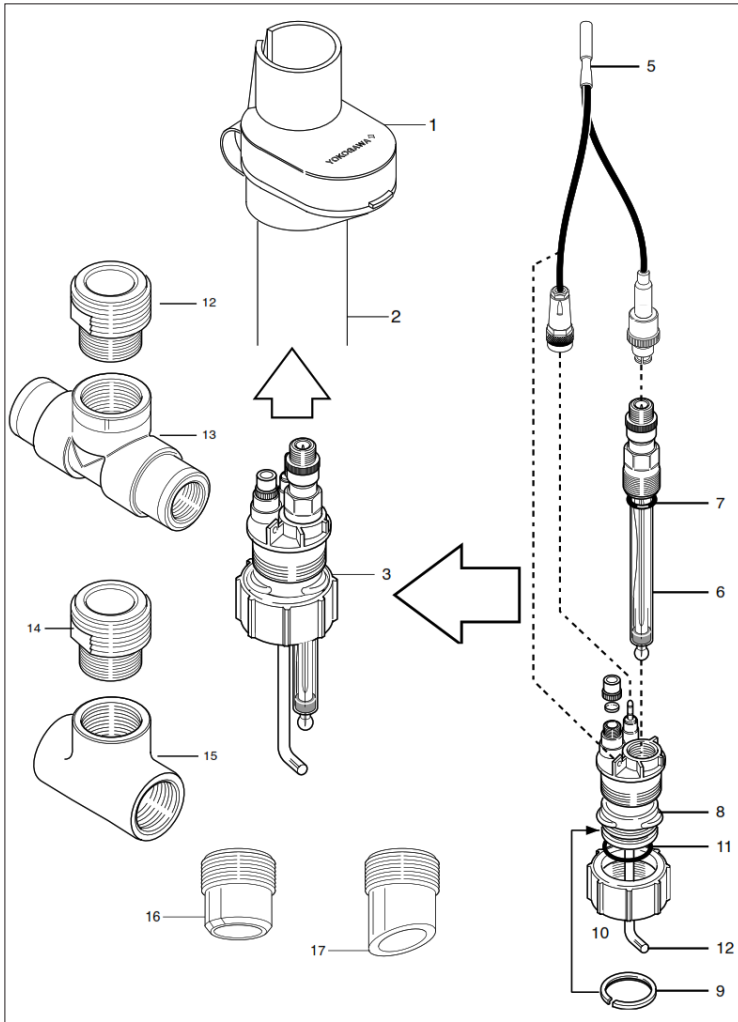

Figure 6. Exploded view PS20
(see fig. 6 and table 4)
1. Push the rubber cap (1) onto the protection hood (2)
2. Open the rubber cap and guide the combination cable (5) through the protection hood.
3. Screw the electrode (5) with "O"-ring (6) into the basic holder (3)
- a. Connect the combination cable (5) onto the electrode and liquid earth connector of the basic holder (see fig. 6).